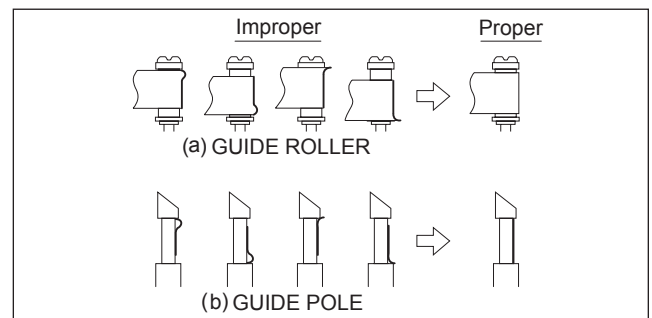
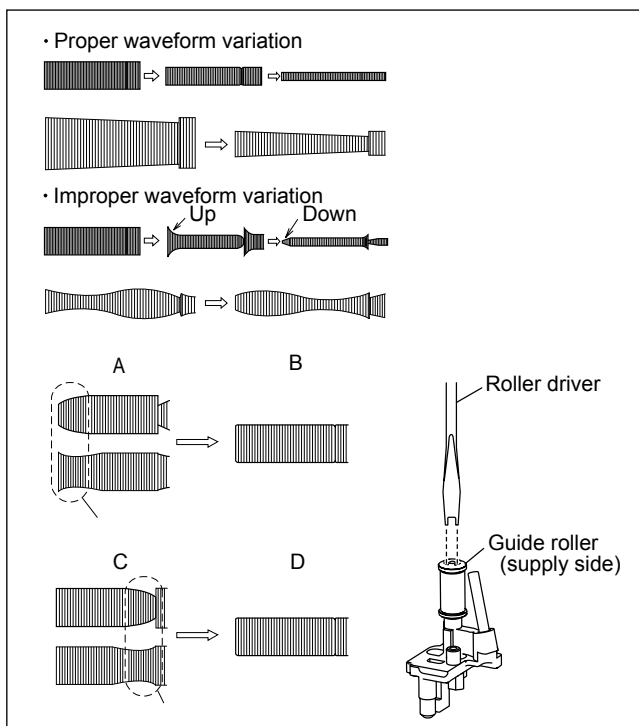

Fig.4-2b
Fig.4-2c
- To prevent damaging the alignment tape in the compatibility adjustment, prepare a cassette tape (for self-recording/playback), perform a test on it by transporting it and making sure that the tape is not bent by the tape transport mechanisms such as in the guide rollers.(See Fig.4-2b.)
- (1) Play back the alignment tape (A1).
- (2) Apply the external trigger signal to D.FF (E), to observe the V.PB FM waveform at the measuring point (D).
- (3) Set the VCR to the manual tracking mode.
- (4) Make sure that there is no significant level drop of the V.PB FM waveform caused by the tracking operation, with its generally parallel and linear variation ensured. Perform the following adjustments when required. (See Fig. 4-2c.)
- (5) Reduce the V.PB FM waveform by the tracking operation. If a drop in level is found on the left side, turn the guide roller of the pole base assembly (supply side) with the roller driver to make the V.PB FM waveform linear. If a drop in level is on the right side, likewise turn the guide roller of the pole base assembly (take-up side) with the roller driver to make it linear. (See Fig. 4-2c.)
- (6) Make sure that the V.PB FM waveform varies in parallel and linearly with the tracking operation again. When required, perform fine-adjustment of the guide roller of the pole base assembly (supply or take-up side).
- (7) Unload the cassette tape once, play back the alignment tape (A1) again and confirm the V.PB FM waveform.
- (8) After adjustment, confirm that the tape wrinkling does not occur at the roller upper or lower limits. (See Fig. 4-2b.) [Perform adjustment step (9) only for the models equipped with SP mode and EP (or LP) mode.]
**[Perform adjustment step (9) only for the models equipped with SP mode and EP (or LP) mode.]**
- (9) Repeat steps (1) to (8) by using the alignment tape (A2).